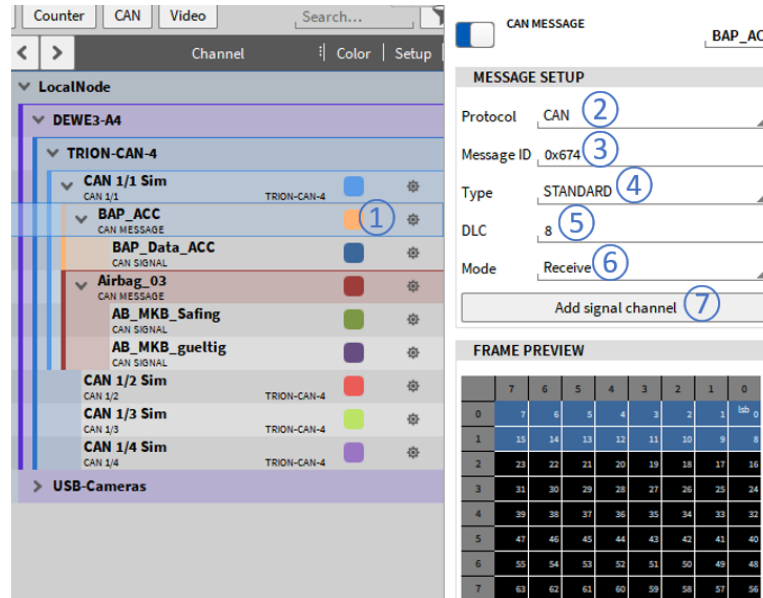

Fig. 7.193: CAN message channel setup
The CAN message setup can be accessed by pressing the gear button of the respective CAN message in the Channel List (see ① in Fig. 7.193).
- Protocol type (see ② in Fig. 7.193): CAN or J1939 or CAN-FD (if applicable)
- Message ID (see ③ in Fig. 7.193): The message's ID can be set from 0x00 to 0x7ff
- Message Type (see ④ in Fig. 7.193): Standard or Extended
- DLC (see ⑤ in Fig. 7.193): The DLC can be set from 0 ... 8 (...64 for CAN-FD)
- Mode (see ⑥ in Fig. 7.193): The Mode can be set from Receive (Receiving CAN data) to Transmit (Outputting OXYGEN data over CAN).
- Add signal channel (see ⑦ in Fig. 7.193):